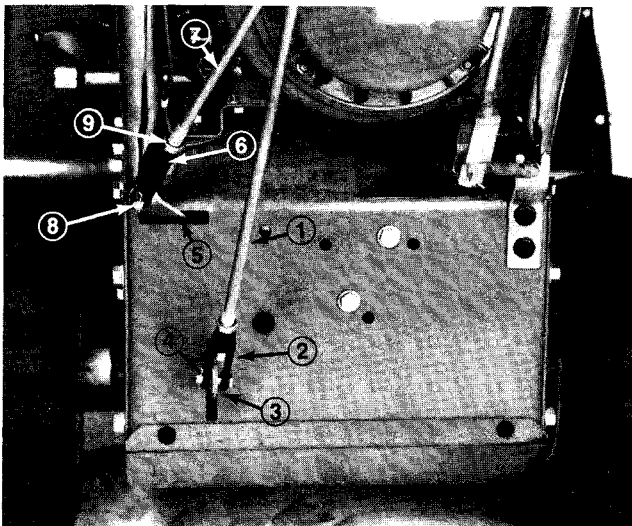

Figure 6
2. While holding wheel drive control lever in position, push up on long rod and rotate clevis until holes in clevis line up with hole in link arm (Fig. 6). Next, secure clevis and link arm together with clevis pin and cotter pin (Fig. 6).
4. Move shift arm fully to the left (Fig. 6). Next, rotate clevis at end of shortest rod until holes in clevis line up with hole in shift arm (Fig. 6). Secure clevis and shift arm together with clevis pin and cotter pin (Fig. 6).
5. Tighten the jam nut against top of both clevises (Fig. 6).